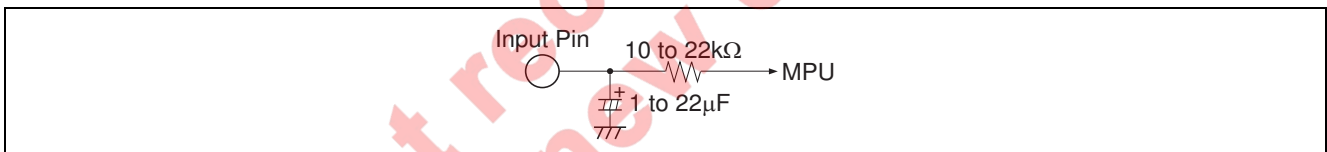

Figure 2 Interface for Reduction of Pop Noise
- Reducing pop noise is so much better for 10 k Ω to 22 k Ω resistor and 1 μ F to 22 μ F capacitor shown figure 2.